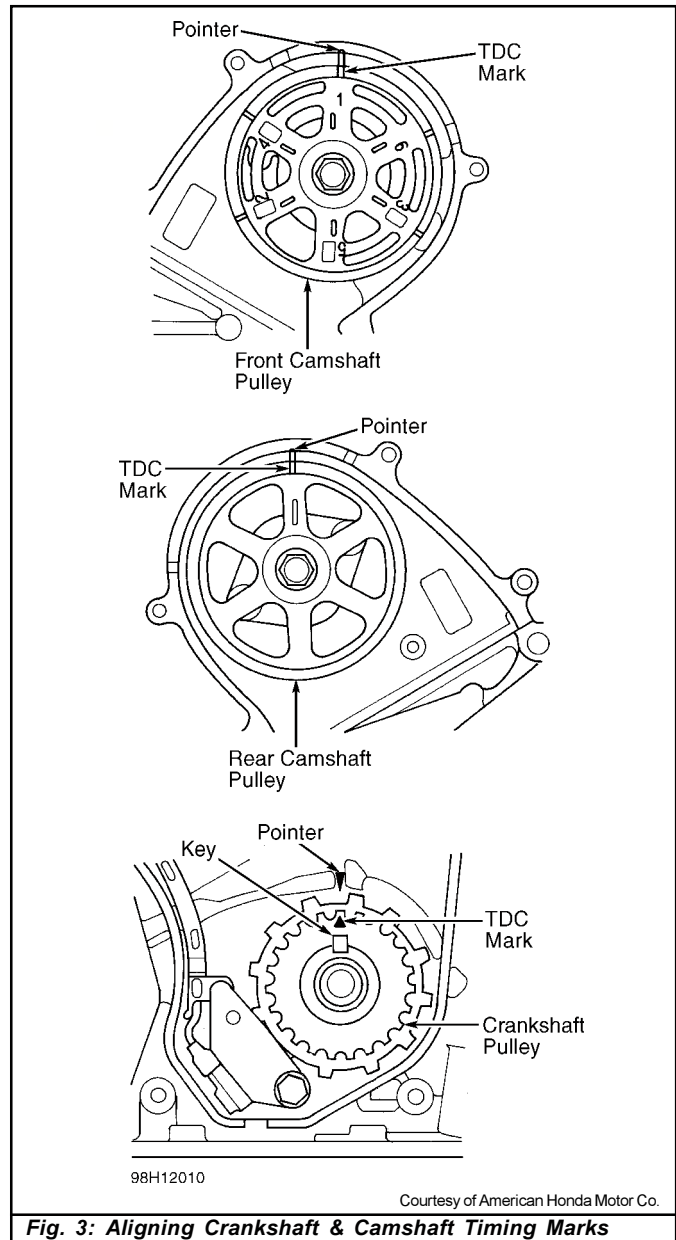

Fig. 3: Aligning Crankshaft & Camshaft Timing Marks
- Ensure that engine is at TDC. Align dimple on timing belt drive pulley with pointer on oil pump. See Fig. 3. Align camshaft pulleys with pointers on back covers.